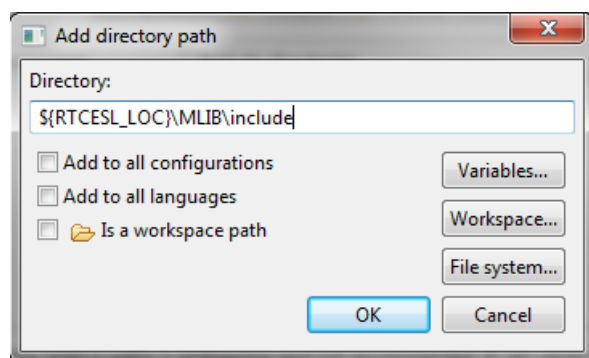

Figure 1-25. Library include path addition
28. Click the Add... button on the right, and a dialog appears. See Figure 1-25.